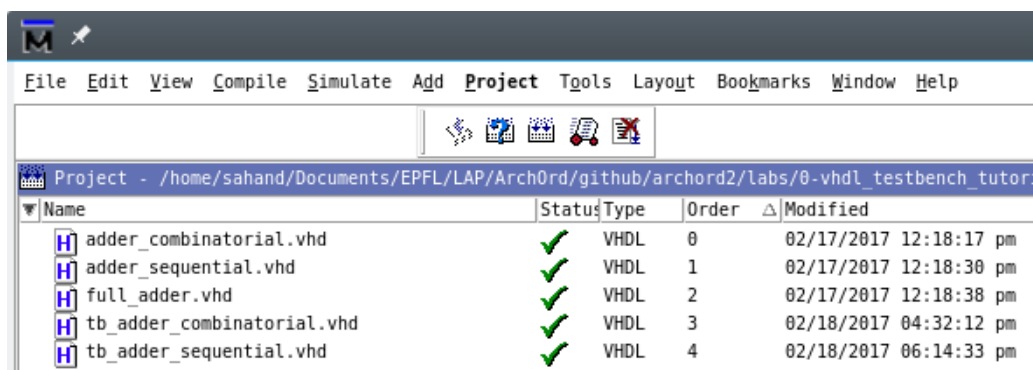

Figure 14: Compiling all testbenches
1. Click on the  icon to compile all sources. You should get something similar to Figure 14. All files should successfully compile as they now all contain valid VHDL.